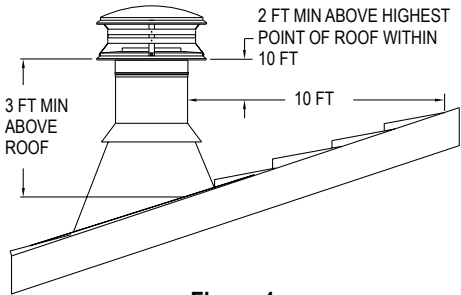
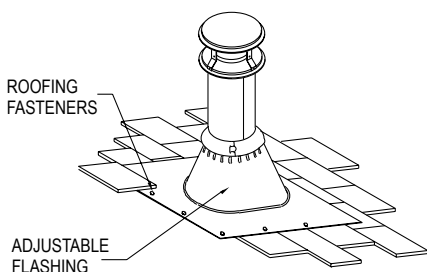
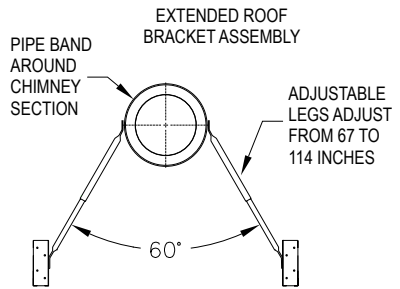

Figure 1
Figure 12
Figure 16
The National Fire Protection Association Standard #211 states: "Chimneys shall extend at least three feet above the highest point where it passes through the roof of a building, and at least two feet higher than any portion of a building within ten feet." (Fig 1) DuraTech Chimney may be installed up to 60 feet high. If the chimney extends more than 5 feet above
chimney above the roof. Allow space to permit sliding the next Chimney Section up through the Flashing. Always insure the chimney remains vertical (use a level), and that at least a 2-inch clearance to combustible materials is maintained all around. Install the upper edge of the Flashing under the roofing. Nail to the roof along the upper edge and down each side with 1-inch roofing nails. Do not nail the lower edge of the Flashing (**Fig 12**). Seal top and upper sides of flashing with roofing compound or sealant. Be sure to follow local building practices, as needed. Seal all nail heads with a non-hardening waterproof sealant. On flat or tarred and graveled roofs, nail and seal the Flat Roof Flashing to the roof on all sides with roofing compound. Do not put screws through the Flashing into the Chimney Pipe.
10. Finish Top: Apply a high-temperature (500°F), non-hardening waterproof sealant around the chimney at the point where the Storm Collar will meet the chimney just above the Flashing. (**Figures 12 and 13**). Slide the Storm Collar down over the chimney to the top of the Flashing. Tighten and seal the Storm Collar against the sealant. After installing sufficient Chimney Sections to meet the height requirement (**Fig 1**), attach the Chimney Cap onto the top of the chimney by holding the collar of the cap and twist locking it clockwise onto the chimney. Do not hold upper portion of the cap and twist, as this may damage the cap. The Chimney Cap can be removed for chimney cleaning as described in the Chimney Maintenance section of the instructions. Use an Extended Roof Bracket if the chimney extends more than 5 feet above the roof. (**Figures 16 & 17 in the Extended Roof Bracket section**). If you are located in heavy snow country, it is recommended that a Snow Splitter be installed. The Snow Splitter can be purchased from DuraVent or fabricated locally
2. Attach the Legs: The Adjustable Legs of the assembly will adjust from 67" to 114". Secure one end of each Leg to the Pipe Band using the nuts and bolts included (2 per Leg). Position the Adjustable legs so they form approximately a 60° angle with the chimney, and with each other (**Figures 16 and 17**). Be sure that there is at least 3" of overlap between the top and bottom halves of the Adjustable Leg. In order to secure Legs in proper position, there is a hole provided in the outer leg where the outer and inner halves overlap. Use a 1/4" drill bit to drill through the inner leg at that location. Use the nut & bolt provided to pin the Adjustable Legs in position.
3. Install Roof Brackets: Mount the two Roof Brackets where each of the Adjustable Legs meets the roof, using (4) 1" roofing nails or screws per bracket. Seal the nail heads carefully with a non-hardening, waterproof sealant. Attach the bottom end of the